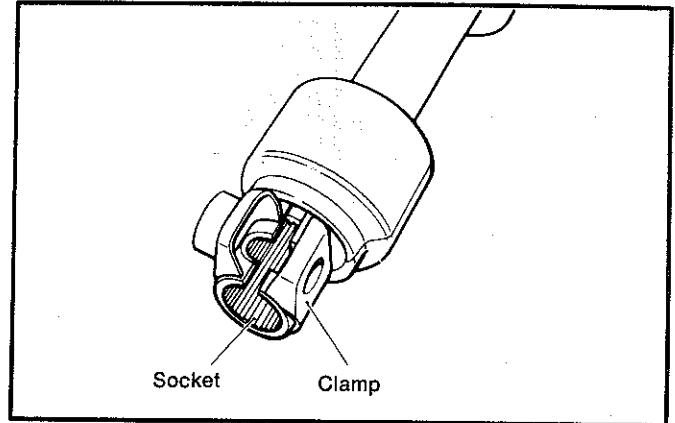

Fig. 21—Positioning the socket and clamp
(1) Align the socket bolt hole and the clamp — see fig. 21.